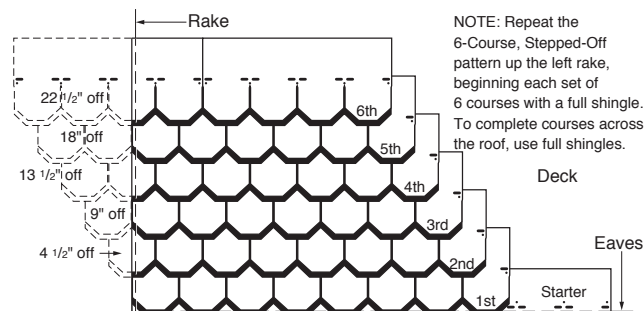

Figure 17-15: Four-and One-Half Off, Six Up (Carriage House).
2. Locate fasteners in starter strip about 1 1/2" up from the bottom edge, so they are centered under the first-course tabs. Continue with full 10" by 36" lengths along the eaves (Figure 17-15).
**1ST COURSE:** Apply a full shingle at the lower left corner of the roof, tabs flush with starter course (Figure 17-15).